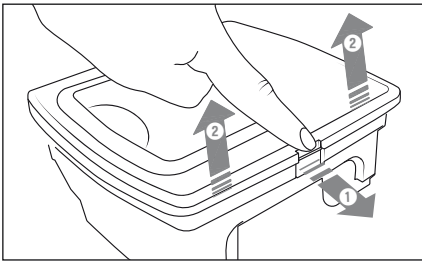

Fig. 7
- 2) Open the latch on the lid of the dust container 12 and flip it up (see Fig. 7).